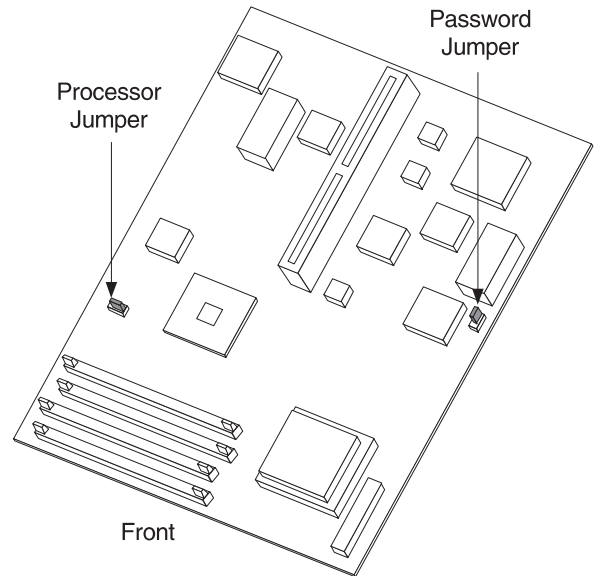
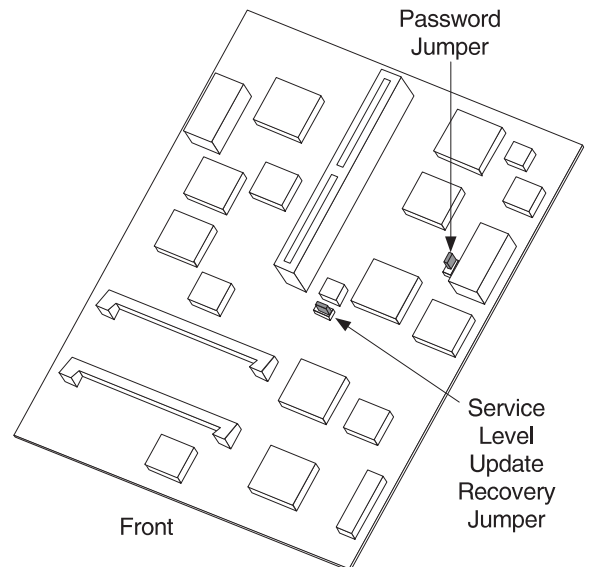

Figure 1-23. 4693 Model 741 Password Jumper Location
Figure 1-24. 4693 Model 3W1 Password Jumper Location
**Note:** You only have to pull the logic tray out far enough to gain access to the jumper. See Figure 1-23 and Figure 1-24.